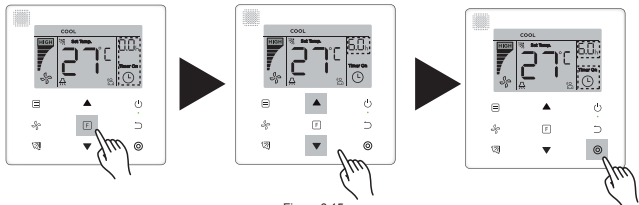

Figure 6.15
- 1) **"Timer On"** setting: press  (Function) button to go to the **"Timer On"** setting, the display will show **"0.0h Time On"**, and the words **"Time On"** will blink, then press  (Confirm) button to go to the timer setting. Press  and  buttons to adjust the time, and press  (Confirm) button to complete the timer setting (see Figure 6.15).